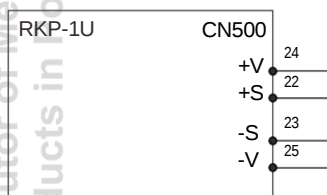

Figure 3-6 Connection for using the "Local Sense" function
- Notice: It is required to use the "Remote Sense" function to let the PSU work properly. If not, the "Local Sense" is still required that "+S" should be shorted to "+V" and "-S" to "-V" as Figure 3-6. Or the output voltage will be too high, which may trigger the over voltage protection.